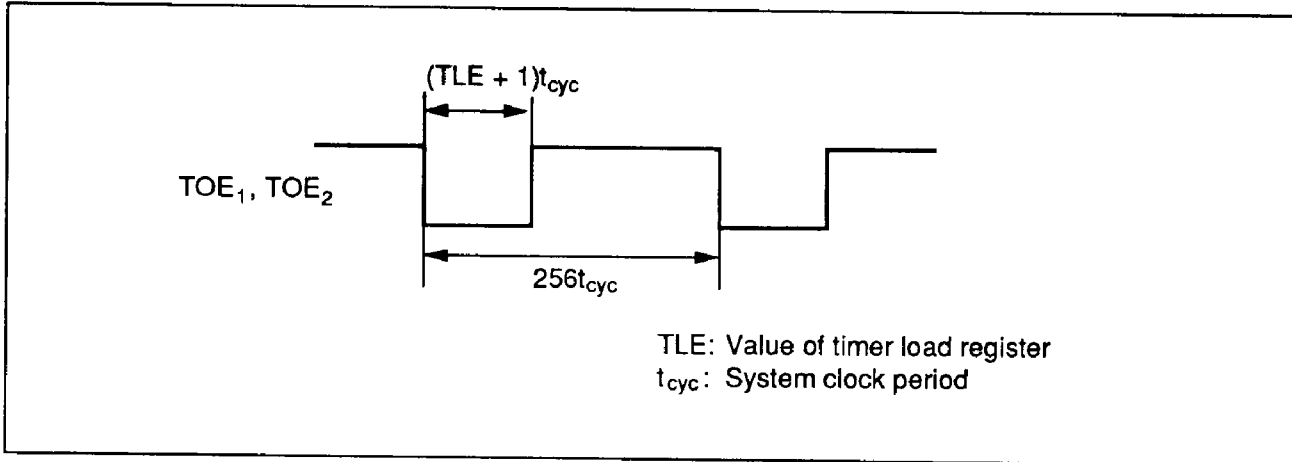

Figure 30 Variable-Duty Pulse Output Waveform
**Timer E:** Outputs two variable-duty pulses (PWM). The duty ratio can be selected by the setting of the load register (figure 30). To write data into the load register, timer buffer register E must be written to first. Data written to the buffer register is transferred to the load register by an overflow from the prescaler. Since the two channels use the same buffer register, the destination load register is selected by the bit 2 setting of the timer mode register (TME). The completion of data transfer from the buffer register to the load register can be checked by reading bit 3 of TME.